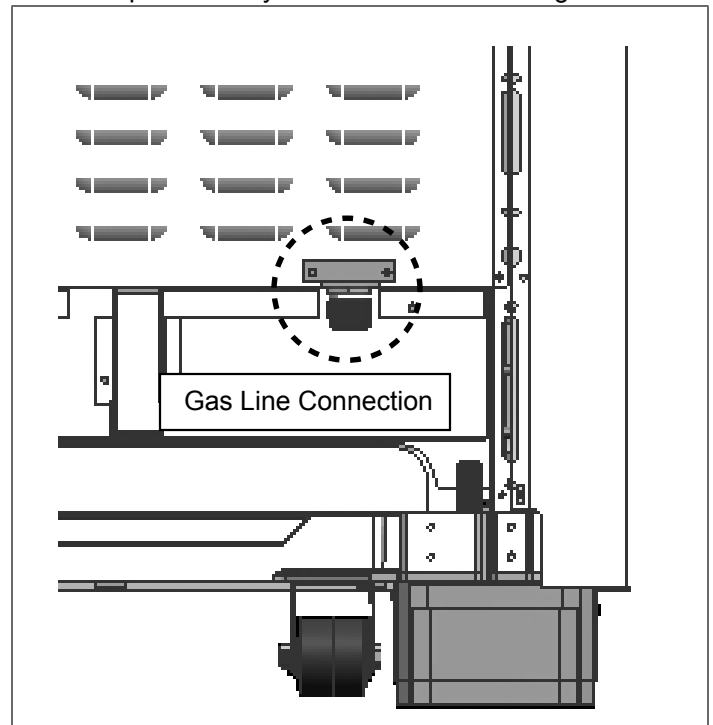

FIGURE 10: MANIFOLD GAS LINE CONNECTION
- Use 3/4" (19mm) flex line to connect between the gas supply and the appliance inlet pipe, which exits at the rear, lower right of the appliance. The appliance pipe connection has a 3/4" (19mm) NPT external thread and a 1/2" (13mm) NPT internal thread (see Figure 10). Use caution to avoid crimping the 3/4" (19mm) flex line when making bends. Suggested length of the flex line is 48" (1219mm); however, check local codes for requirements before installation.